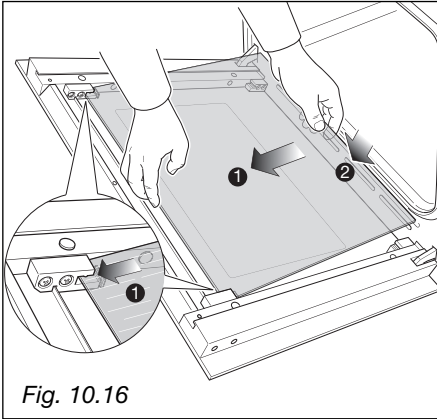

Fig. 10.16
- Gently insert the top edge of the pane into the top clamps (arrow 1 in fig. 10.16), then lower the pane and insert the bottom edge into the bottom clamps (arrow 2 in fig. 10.16); and then slide the pane into position (fig. 10.17).